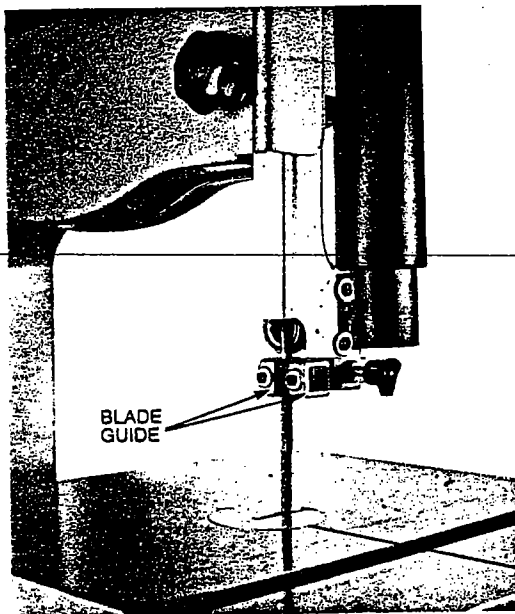

FIGURE 19
2. Adjust blade guides flat with blade (Figure 19).